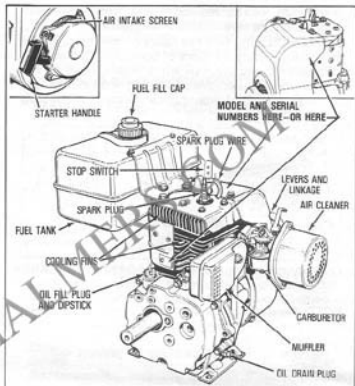

Fig. 1
- 2** **FILL OIL SUMP WITH OIL.** See preceding "Oil & Fuel Recommendations," item 1 for correct oil and Figure 1 for oil fill locations.
- 5** **FILL FUEL TANK** with gasoline as specified in the preceding "Oil & Fuel Recommendations," item 2 (page 26).
- Be sure Spark Plug Wire is attached to Spark Plug (see Figure 1).
① **CHECK OIL LEVEL REGULARLY.**
**POSITION EQUIPMENT SO ENGINE IS LEVEL.** Check level every five (5) operating hours or each time equipment is used. Always clean area around Oil Fill Plug (see Figure 1) before removing plug, to avoid contaminating oil with dirt, grass clippings, etc. Add oil as necessary. **Do not run engine unless proper oil level is maintained. Level must be between "Full" and "Add" mark on dipstick.** See instructions 2 and 3 in preceding "Pre-start Instructions" (page 26).
② **CHANGE OIL** — after first two (2) hours of operation and every twenty-five (25) hours thereafter, or more often if operated in extremely dusty or dirty areas.
**DRAIN OIL** — Position equipment so that Oil Drain Plug (see Figure 1) is lowest point on engine. Remove Oil Drain Plug and Oil Fill Plug (while engine is still warm) and allow oil to drain completely.
## 4 SPARK PLUG (see Figure 1)